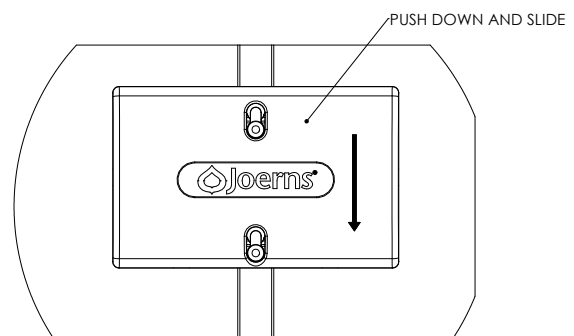

Figure 2
- c. Slide the control unit cover into place (Figure 2).